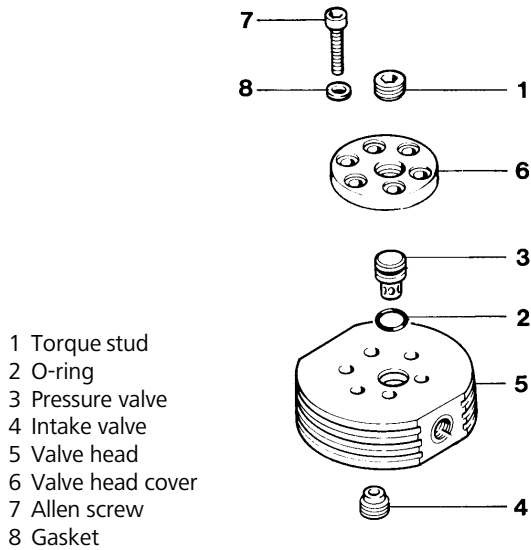
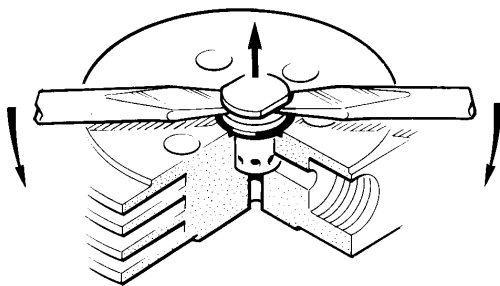

Fig. 30 Valve head 3rd stage
Fig. 31 Removal of 3rd stage pressure valve
- Remove two captive nuts (1) and spring-washers (2).
- Remove plate (3).
- Remove valves (4) and (7) using two screw-drivers as shown in Fig. 31.
- Assemble in reverse sequence. Position spring-washers with curved side facing upwards. Fasten nuts so that plate (3) is parallel to the valve head. Torque with 10 Nm (1 kpm).
On this valve head, the valves are arranged on the upper and lower side due to the small diameter of the 3rd stage, see Fig. 30.
Remove of 3rd stage pressure valve (3) according to Fig. 30.
- Unwind torque stud (1) a couple of turns.
- Remove allen screws (7), take off valve head cover (6).
- Put two screwdrivers into the groove of pressure valve body (Fig. 31). If necessary turn valve loose at first using a 13 mm spanner on the flat surfaces.
- Lift out pressure valve (3) together with O-ring (2).